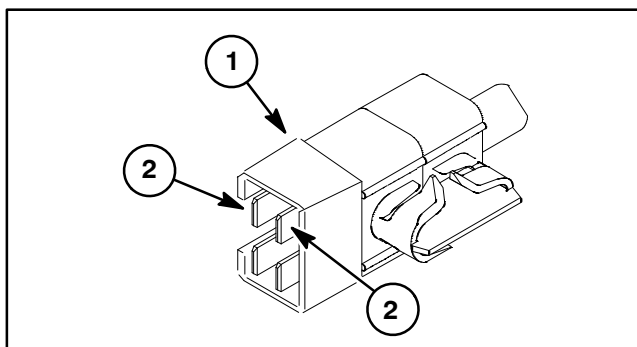

Figure 31
2. Remove four (4) screws and carefully slide shift bracket assembly from front of seat base to gain access to backup switch.
4. With the use of a multimeter (ohms setting), check that the normally open switch contacts (Fig. 31) do not have continuity when the switch plunger is extended. The contacts should have continuity when the switch plunger is fully depressed.
5. When testing is complete, connect wire harness connector to backup switch. Slide shift bracket into seat base and secure with four (4) screws.